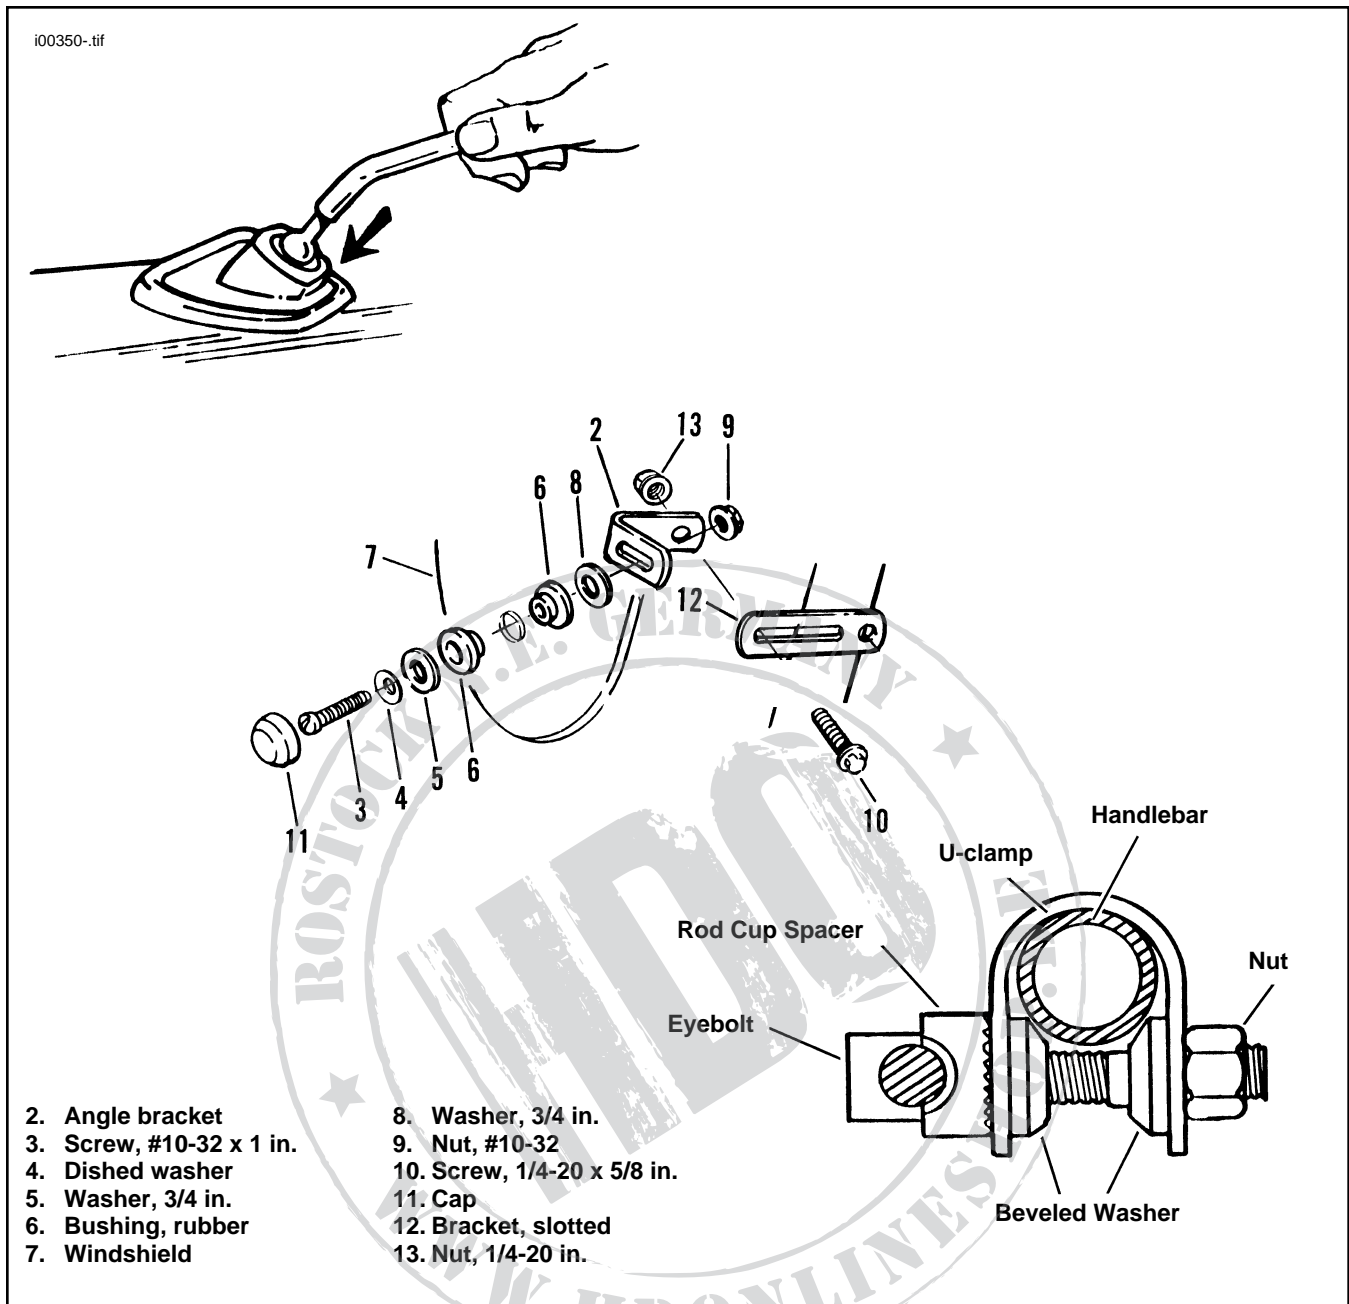

Figure 2. Windshield Brackets
4. See Figure 2. Assemble lower angle brackets (2), left and right, to windshield in the following order (front to rear): #10-32 x 1 in. screw (3), dished washer (4), 3/4 in. washer (5), rubber bushing (6), windshield (7), rubber bushing (6), 3/4 in. washer (8), angle bracket (2) and #10-32 nut (9). Do not fully tighten nut.
8. Fasten slotted bracket (12) to angle bracket using 1/4-20 x 5/8 in. bolt and 1/4-20 nut (13) as shown. Slot must go toward windshield on FXDWG models.
12. See Figure 2. Install snap caps (11) over #10-32 x 1 in. screws (3).